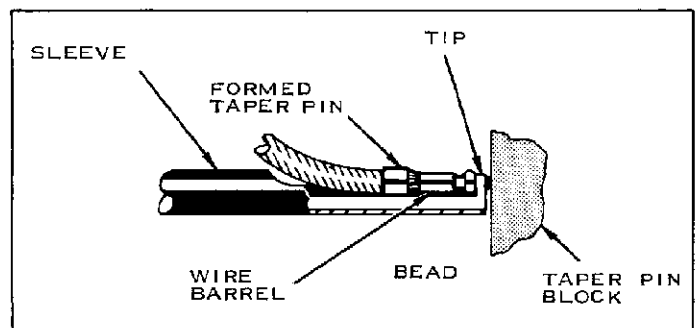
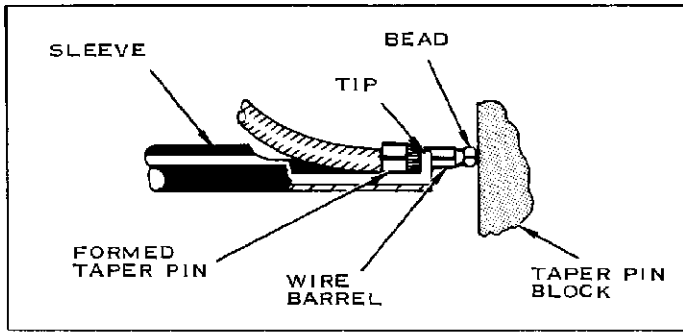

FIGURE 2
FIGURE 3
NOTE Tool 91012-1 is used as shown in Figures 2, 3, and 4. Tool 91012-2 is used only as shown in Figure 3.
1. Place Tool Tip between the Bead on the Taper Pin and the face of the Receptacle Housing as shown in Figure 2.
NOTE If it is impossible to place Tip as shown in Figure 2, place Tip over the Wire Barrel of the Terminal as shown in Figure 3.